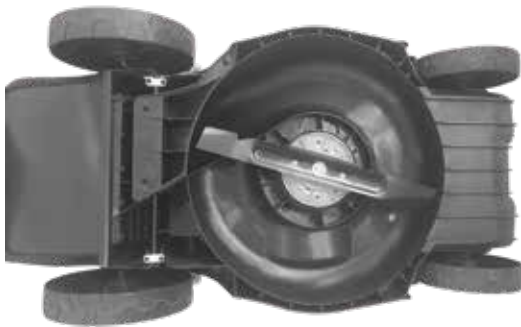

FIG.12
4. Loosen the hex bolt counterclockwise using the supplied hex wrench and remove it together with the washer and the blade (Fig. 12).